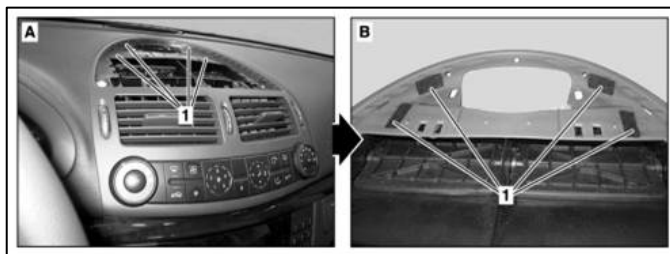

Figure 4
2. Apply felt (material thickness: 1 mm) in order to brace the grill. (1, Figure 4)